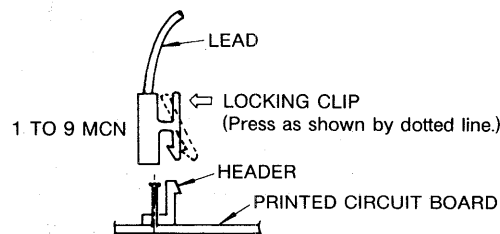

Fig. 5.1 Removal of Connectors
1. Unplug the nine emitter-base-collector connectors (1 to 9 MCN) from base drive board. See Fig. 5.1.